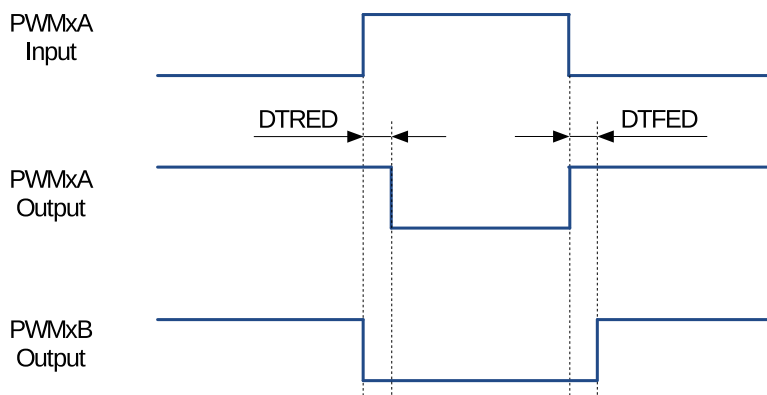

Figure 116: Active Low (AL) Dead Time Waveforms
| 5 | Active Low (AL), see Figure 116 | 0 | 0 | 1 | 1 |